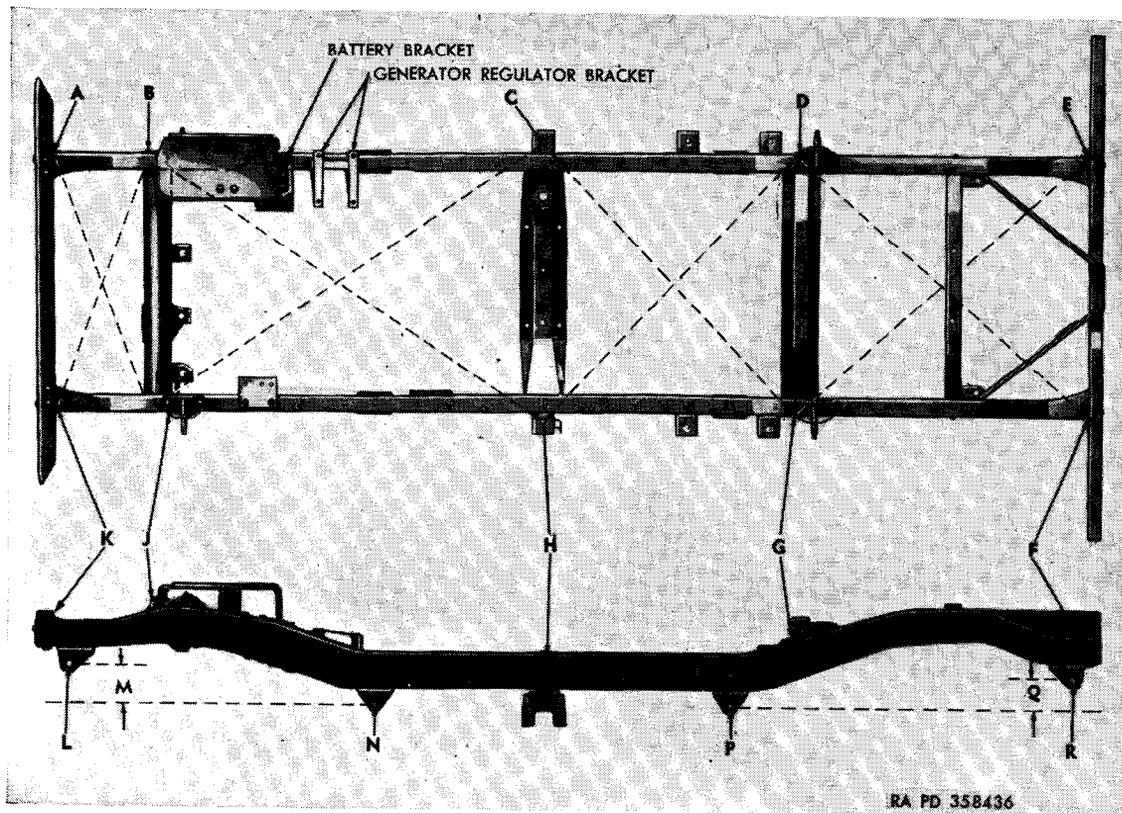

Figure 109. Frame—top and side view.
a. *Frame Dimensions* (fig. 109). To supply as much information as possible to aid in checking frames or to repair damage due to accidents, the main measurements of the frame are given in this paragraph. The over-all length of the frame is 122 $\frac{3}{4}$ inches. The width measured between the outside faces of the frame side members is 29 $\frac{1}{4}$ inches. Distance "L" to "N" indicates the correct distance of 38 $\frac{3}{4}$ inches
b. *Check Frame Alinement* (fig. 109). The extent of the misalignment of the frame can be determined by taking measurements at the various points. Measure the distance from points "A" to "J" and from "B" to "K." The difference between these two measurements should not be more than one-eighth of an inch. Measure the distance from points "B" to "H" and "C" to "J." The difference between these two measurements should not be more than one-eighth of an inch. Measure the distance from points "D" to "H" and "C" to "G." The difference between these two measurements should not be more than one-eighth of an inch. Measure the distance between points "D" to "F" and "E" to "G." The difference between these two measurements should not be more than one-eighth of an inch.
b. *Repair Loose Rivets and Brackets* (fig. 109). Replace all rivets that are loose or missing. Replace any damaged body brackets. Replace the battery bracket or voltage regulator brackets if they are damaged or bent beyond repair on the frame.